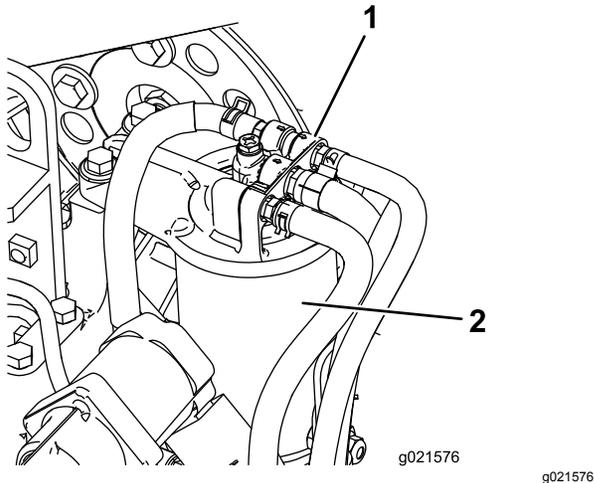

Figure 86
1. Clean the area around the fuel-filter head (Figure 86).
2. Remove the filter and clean the filter-head mounting surface (Figure 86).